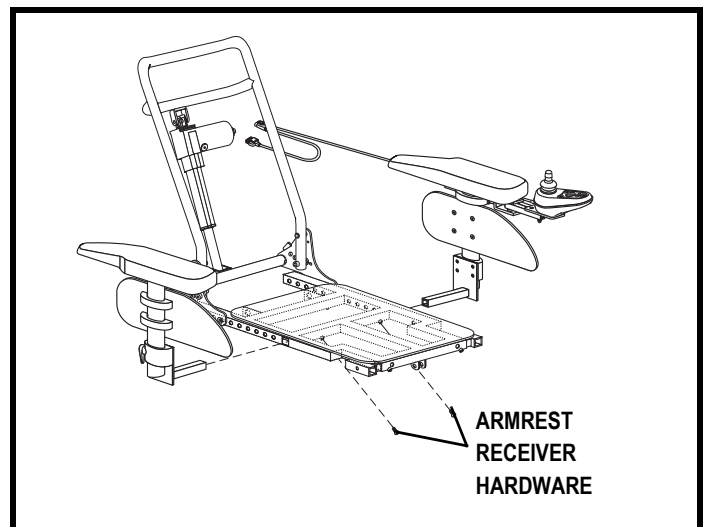

Figure 14. Seat/Armrest Width Adjustment
2. Loosen the armrest receiver hardware. **See figure 14.**